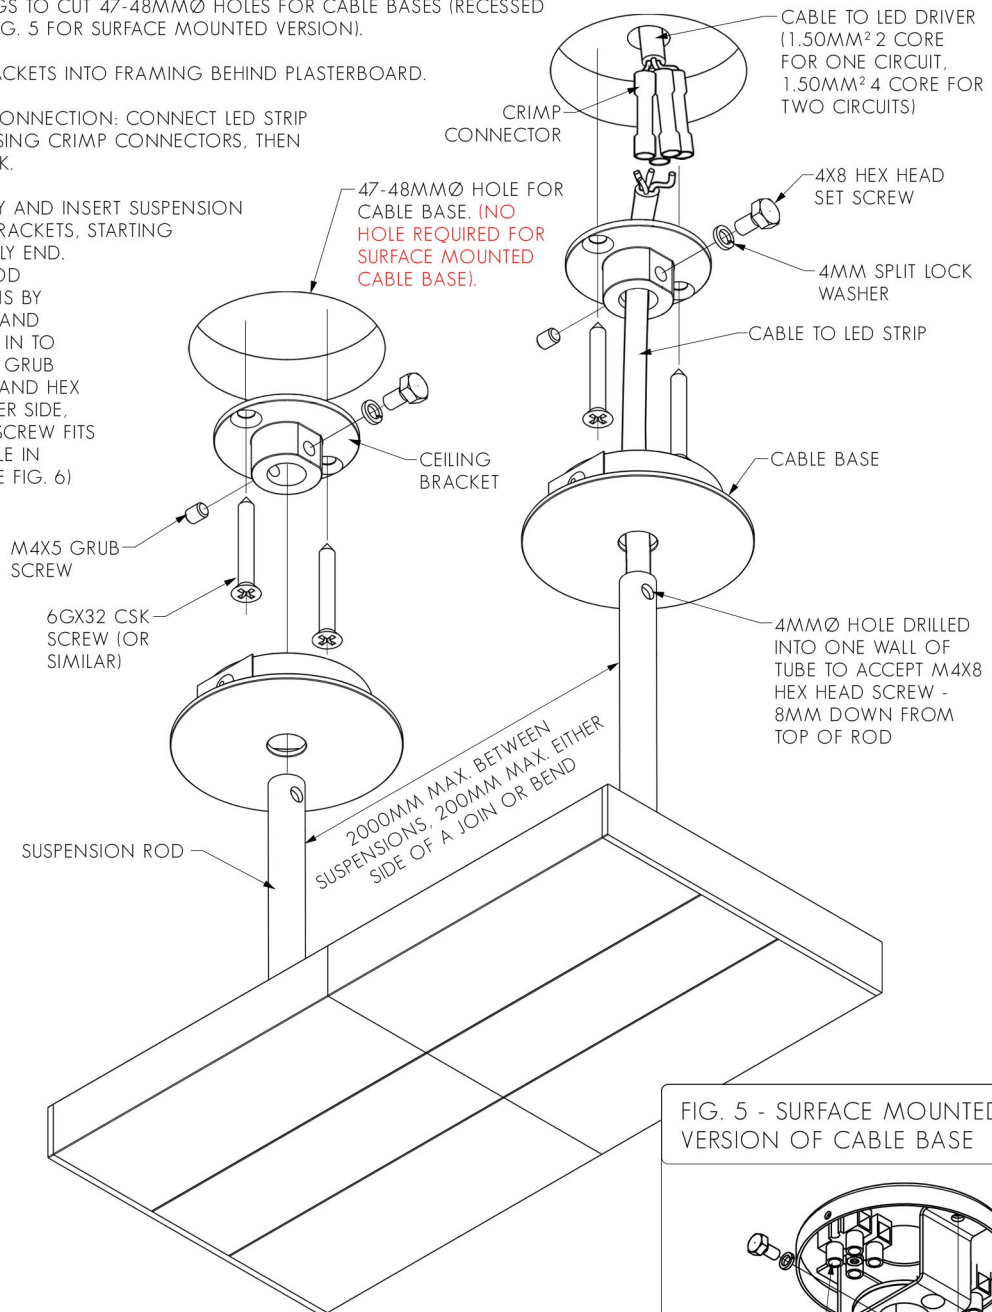

FIG. 5 - SURFACE MOUNTED VERSION OF CABLE BASE
1. LIFT LIGHT ASSEMBLY UP TO CEILING AND MARK LOCATIONS OF RODS ON CEILING. USE MARKINGS TO CUT 47-48MMØ HOLES FOR CABLE BASES (RECESSED VERSION ONLY - SEE FIG. 5 FOR SURFACE MOUNTED VERSION).